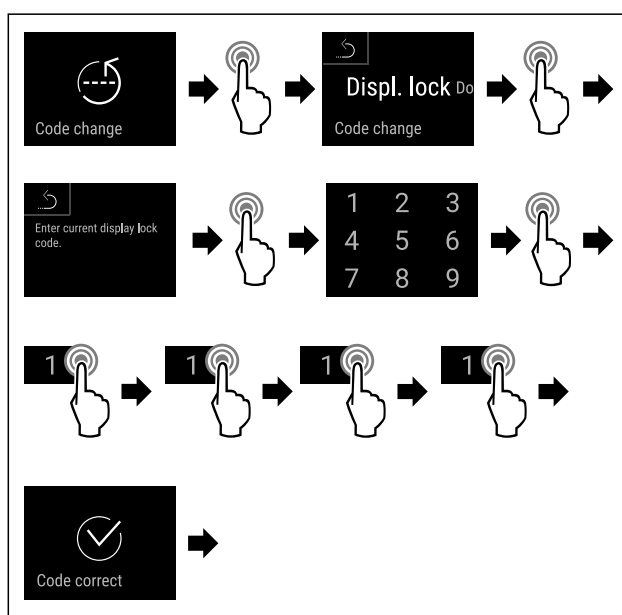

Fig. 84
- ▶ Complete the steps (see Fig. 84).